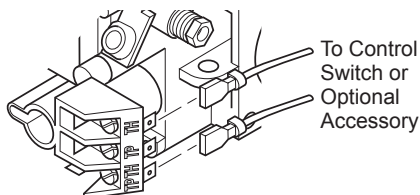

Figure 20 - Control Valve Terminals
1. Connect one terminal of 25 ft. wire for the wall switch to the TPTH terminal on the valve. Connect remaining wire terminal to the TH terminal on the valve. Make sure that the wire terminals are in the positions on the unit as pictured in Figure 20. If wires are not connected as shown, the switch will not work.